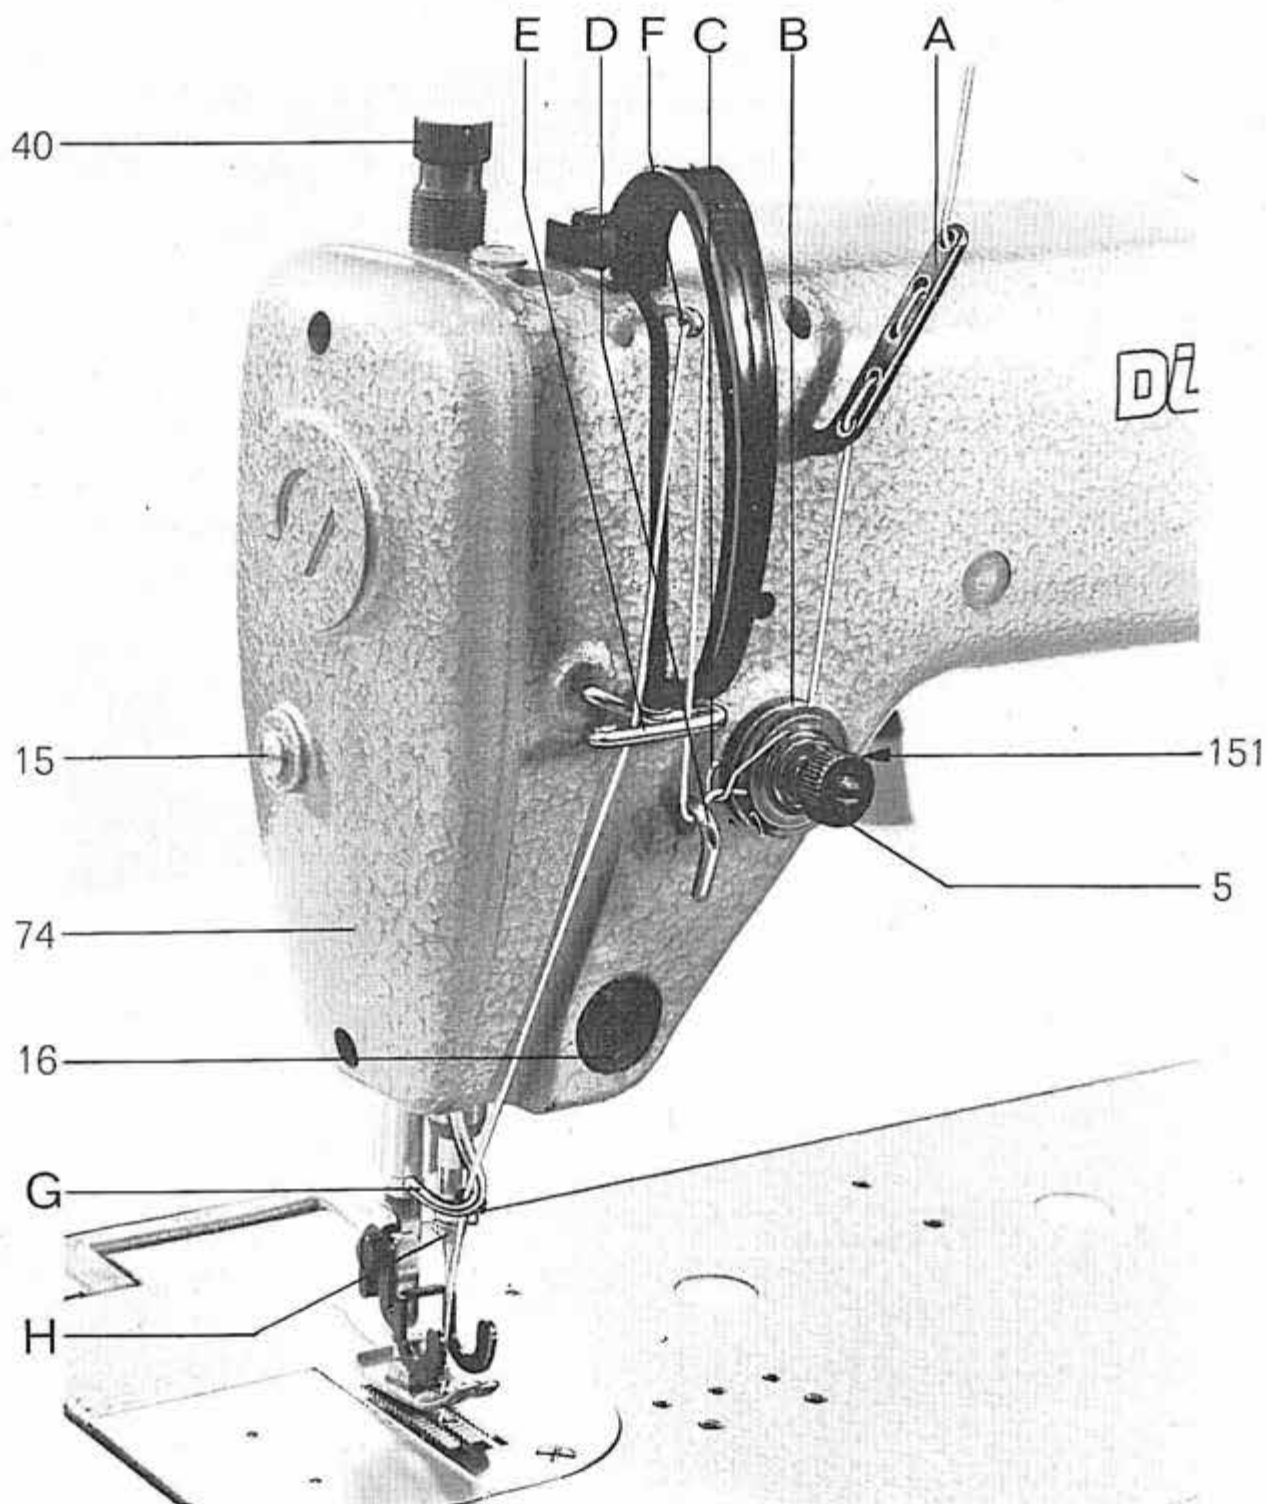
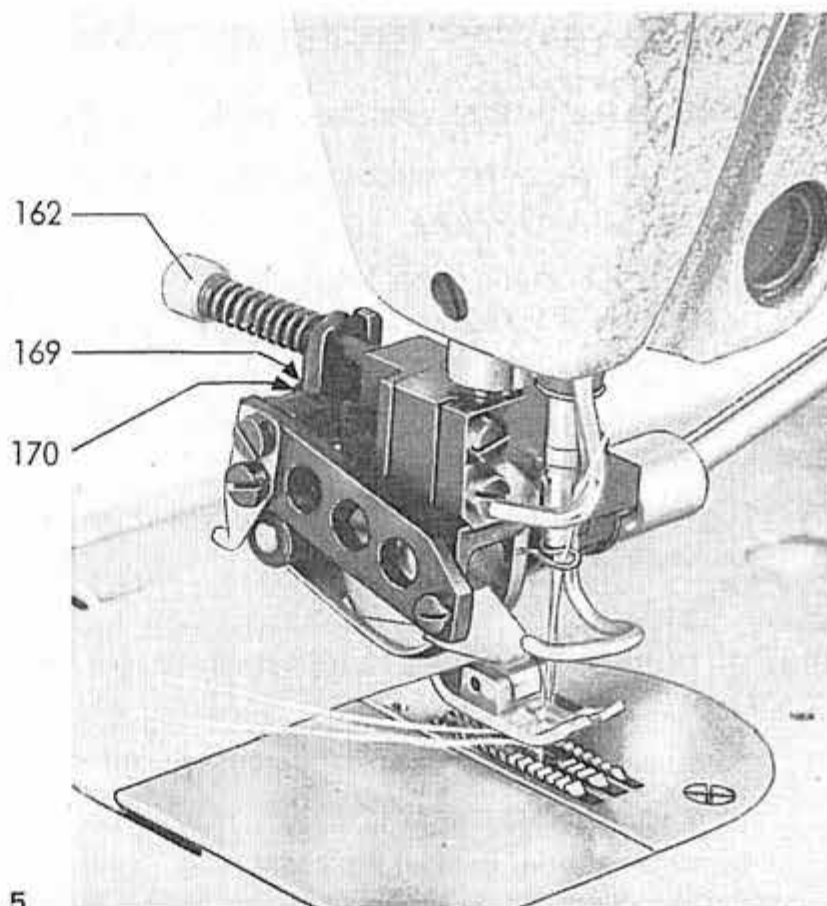

Fig. 1
Fig. 5
### 1. Raising the cloth presser foot (fig. 1)
For cleaning the parts under the base plate tilt the machine head backwards. At the same time the oil, accumulated behind the sight glass 16 (fig. 1) will flow back to the machine arm. Therefore, if the cleaning is done regularly, there will never be too much oil in the arm head of the machine.
The path of the needle thread is visible from fig. 1. Before threading the needle, set thread take-up lever to its topmost point.
- 8.1. **Needle thread.** The tension of the needle thread is regulated by turning knurled nut 5 (fig. 1). Turn clockwise to increase and counter-clockwise to reduce the tension.
## 9. Regulating the pressure of the cloth presser foot (fig. 1)
On machines with intermittent upper puller feed (211-10000 and -19000) the foot pressure is adjusted by the knurled nut 162 (fig. 5). The pressure of the puller on the material sewn is adjusted by threaded sleeve 40 (fig. 1).